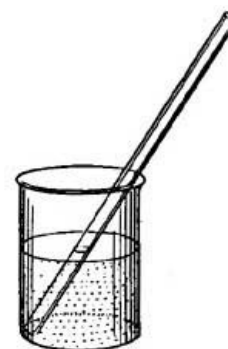

FIG. 41.—The water in the tube is at the same level as that in the glass.
**77. Air Pressure.** If an empty tube (Fig. 41) is placed upright in water, the water will not rise in the tube, but if the tube is put in water and the air is then drawn out of the tube by the